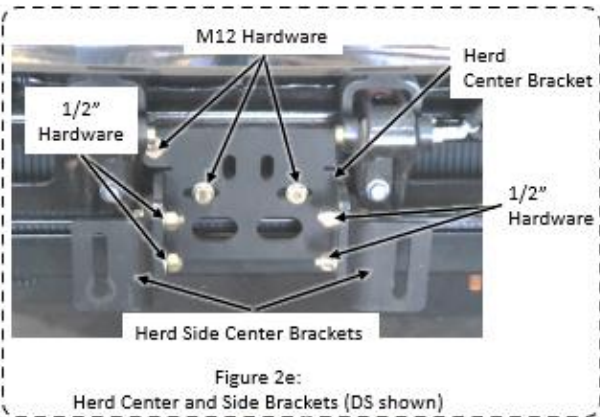

Figure 2e:
6. Mount the Herd Center Brackets using the provided M12 fasteners as shown in Figure 2e. **Torque M12 hardware to 83 ft-lb.**
7. Install the Herd Side Center Brackets to the Herd Center Bracket using 1/2" hardware, see Figure 2e. Loosely tighten the fastener for later adjustment.